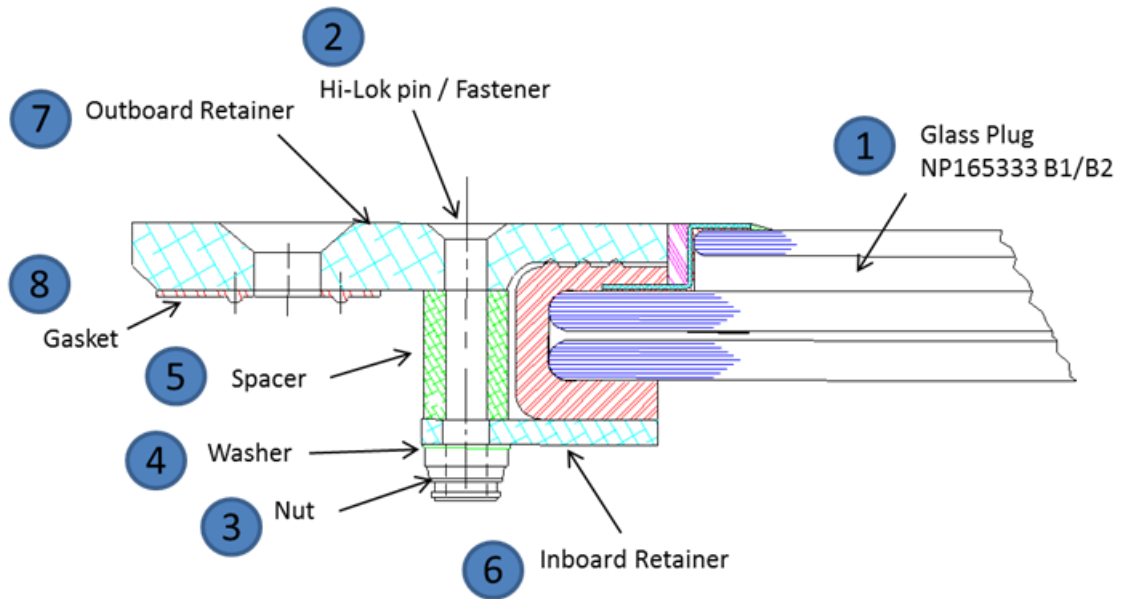

Figure 1 – Window Glass Plug/Retainer Diagram
(2) Replacement Procedure (Reference Figure 1)